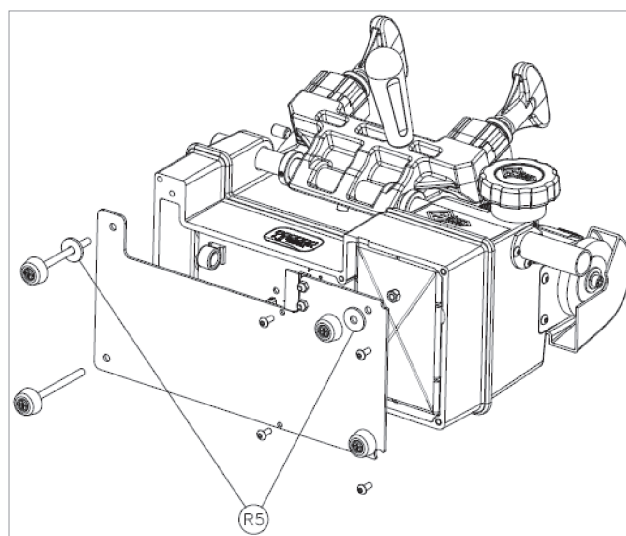
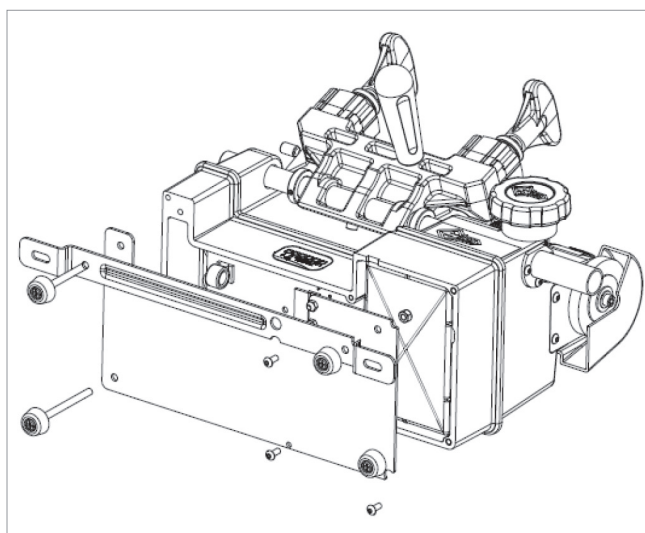

Fig. 14
Fig. 15
- 4) Remove the washers (R5) (Fig. 14) from the front foot and fix the Fixing Bracket it its place (Fig. 15).